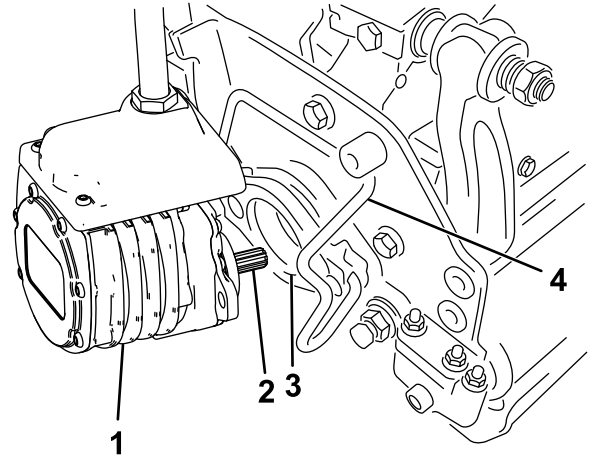

Figure 34
6. Coat the spline shaft of the cutting unit motor with clean grease (Figure 34).
7. Insert the motor into the left side of the cutting unit (as viewed from the operator's position) and pull the motor retaining bar on the cutting unit toward the motor until you hear an audible “click” from both sides of the motor (Figure 34).